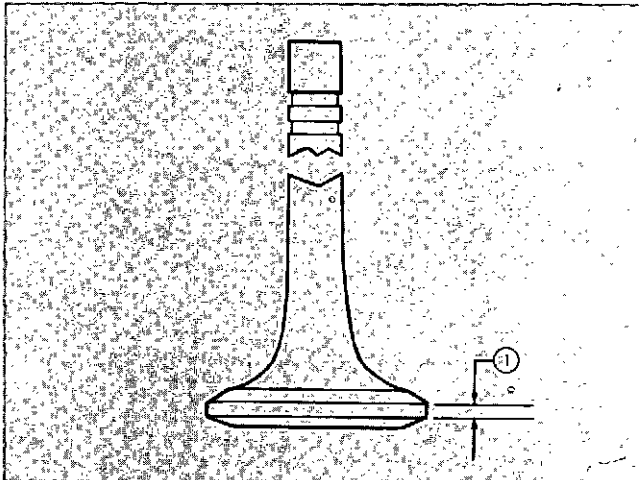

Fig. 2-5-1, N10231. Minimum valve head rim thickness
- a. Heads are cupped, cracked, pitted or worn too thin to regrind within limits. Check valve head rim thickness. Discard valve if rim is less than 0.105 inch [2.6670 mm] (1, Fig. 2-5-1).
6. Check rim thickness as shown in Fig. 2-5-1. If rim is less than 0.105 inch [2.6670 mm], valve is not suitable for use because of danger of burning and cupping.